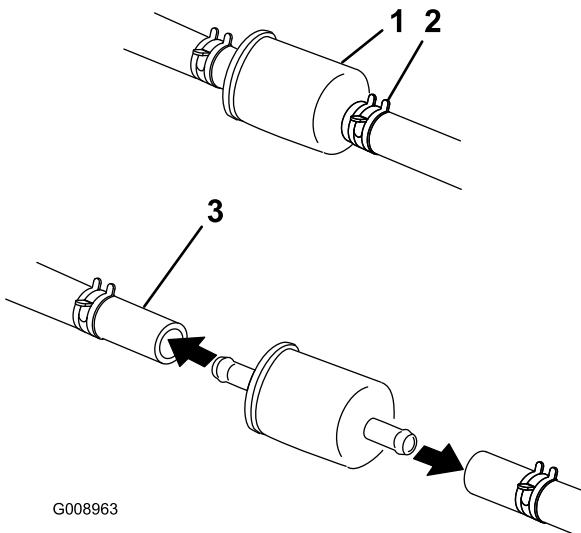

Figure 58
5. Close the fuel shutoff valve under the seat (Figure 58).
6. Squeeze the ends of the hose clamps together and slide them away from the filter (Figure 58).
8. Install a new filter and move the hose clamps close to the filter (Figure 58).